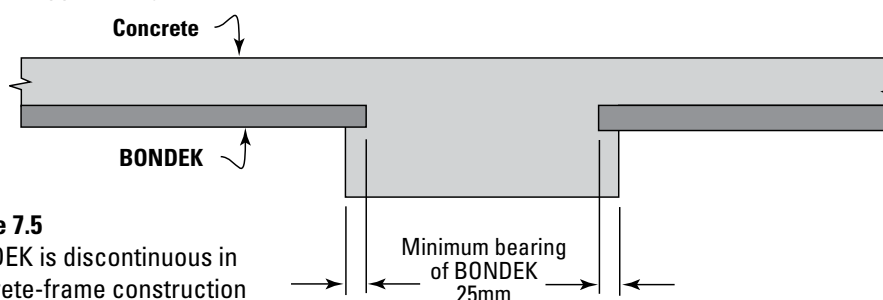

Figure 7.5
- For the supports to carry the wet concrete and construction loads, the minimum bearing is 50mm for ends of BONDEK sheets, and 100 mm for intermediate supports over which the sheeting is continuous. It may be reduced to 25mm for concrete band beams as shown in Figure 7.5.
When used in concrete-frame construction, the BONDEK sheeting is discontinuous through the supports (Figure 7.5).